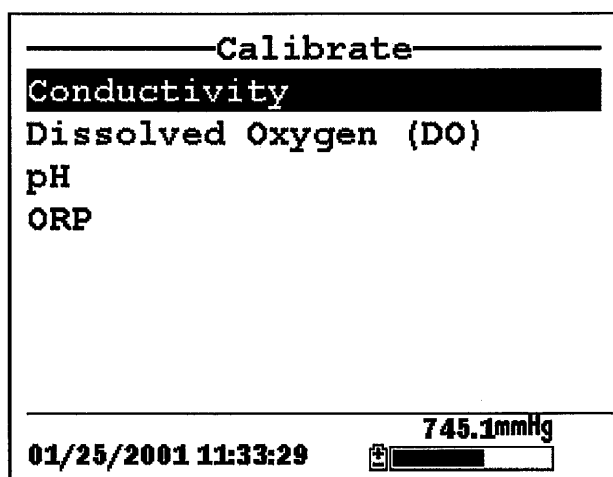

Figure 6.2 Calibrate Screen
2. Use the arrow keys to highlight the **Conductivity** selection. See Figure 6.2 Calibrate Screen.
- 15.** Press **Escape** to return to the calibrate menu. See Figure 6.2 Calibrate Screen .
- 2.** Use the arrow keys to highlight the **Dissolved Oxygen** selection. See Figure 6.2 Calibrate Screen.
11. Press **Escape** to return to the calibrate menu. See Figure 6.2 Calibrate Screen.
- 11.** Press **Escape** to return to the calibrate menu. See Figure 6.2 Calibrate Screen.
- 2.** Use the arrow keys to highlight the **pH** selection. See Figure 6.2 Calibrate Screen.